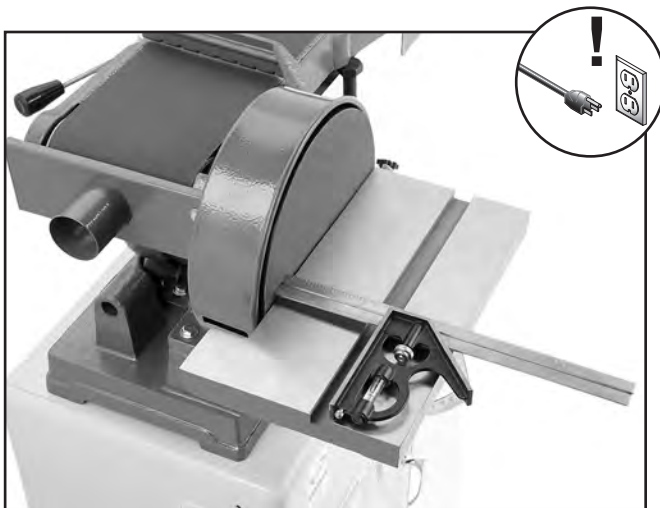

Figure 95. Checking miter slot parallelism with sanding disc.
2. Remove the miter gauge, then place a combination square with the 90° square in the miter slot, as shown in **Figure 95**.